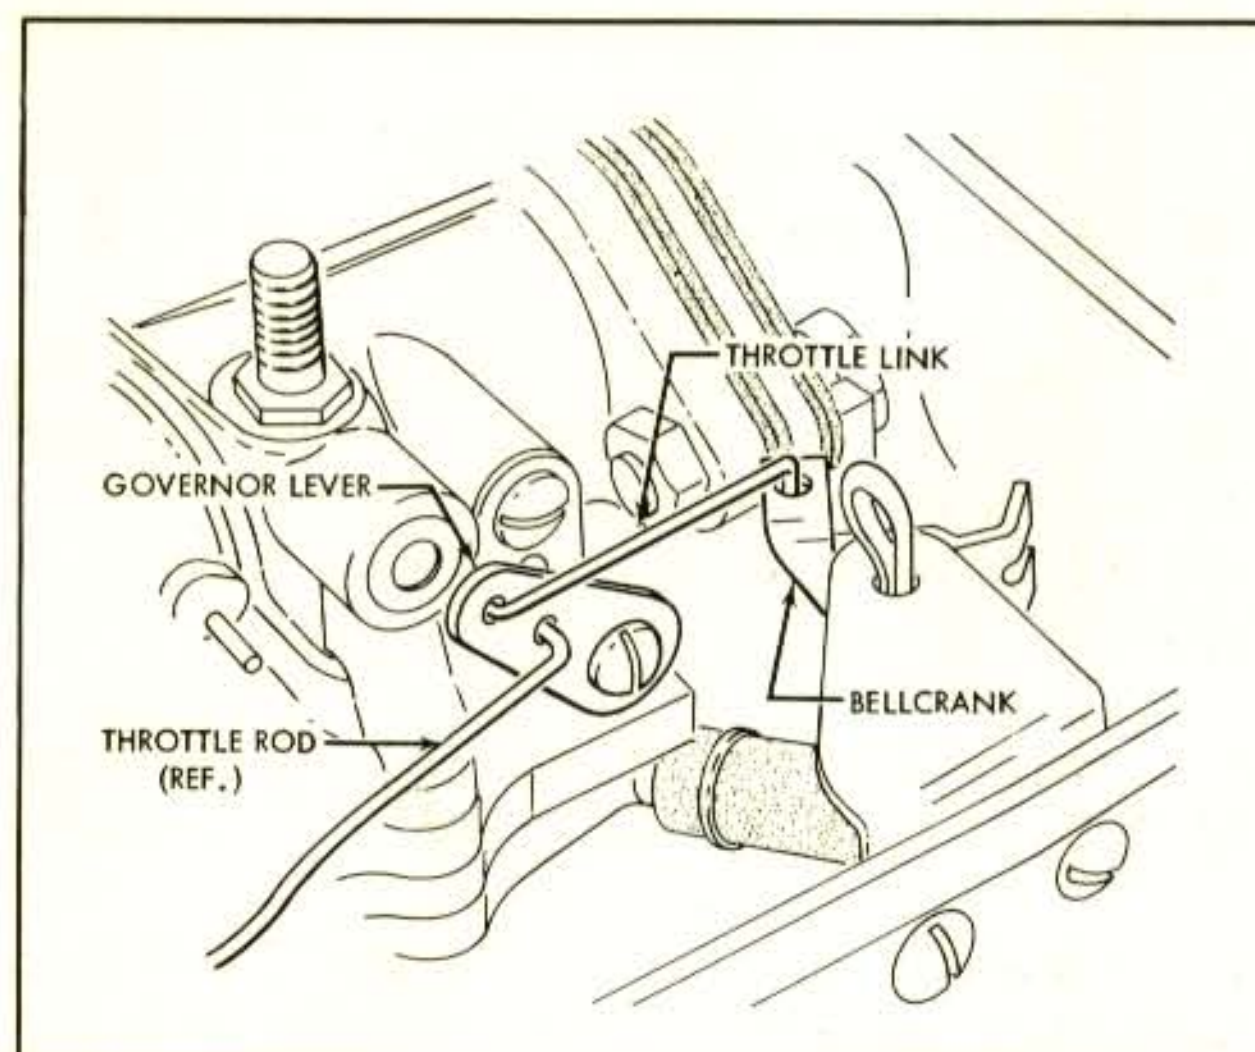

Figure 12. Installing Throttle Lever
12. Remove the throttle governor lever from the carburetor and install new Throttle Governor Lever (P/N 51718). See Figure 12.
13. Install the "two-way bend" end of the Throttle Link (P/N 57403) into the hole on the top of the Bellcrank and the "90° bend" end into the top hole on the Throttle Governor Lever. Install the throttle rod in the lower hole as shown in Figure 12. Crimp the 90° end with a pair of pliers to lock it securely on the Throttle Governor Lever.